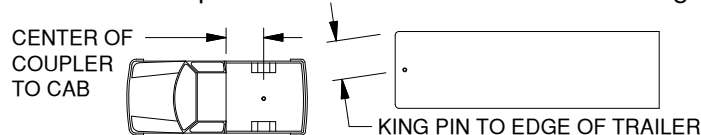

Figure C2: Truck and Trailer
2. **Evaluate clearance.** Determine if there is clearance between each truck and trailer combination before towing. Measure from the center of the coupler to the cab of the truck and from the king pin or pivot point of the trailer to the furthest forward corner of the trailer, see Figure C2. Compare these measurements to ensure proper clearance when towing. Also, inspect the clearance between the bed sides and the underside of the front of the trailer to ensure there is room for the pitch and roll of the trailer while towing.